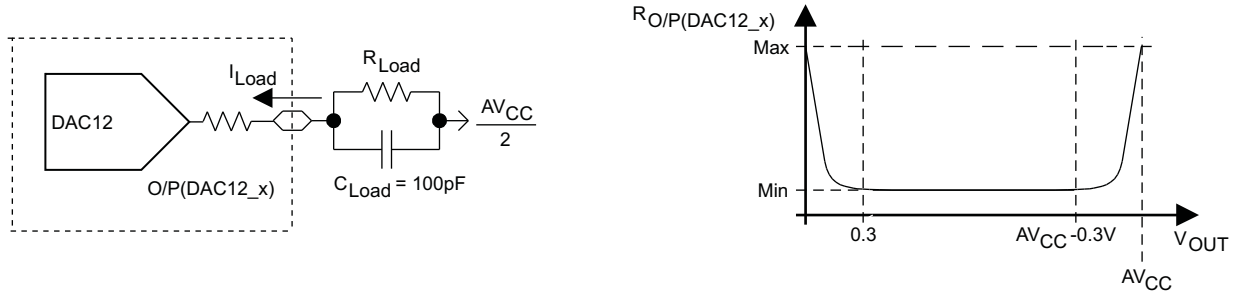

Figure 5-24. DAC12\_x Output Resistance Tests
| V OOutput voltage range (1)(see Figure 5-24) | No Load, V REF+ = AV CC ,DAC12_xDAT = 0h, DAC12IR = 1,DAC12AMPx = 7                     | 2.2 V,3 V   | 0                       |     | 0.005            | V    |